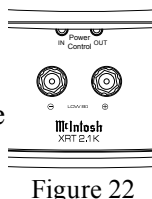

Figure 22
2. Connect a power control cable from the Power Amplifier POWER CONTROL OUT to the XRT2.1K POWER CONTROL IN. Refer to figure 22.